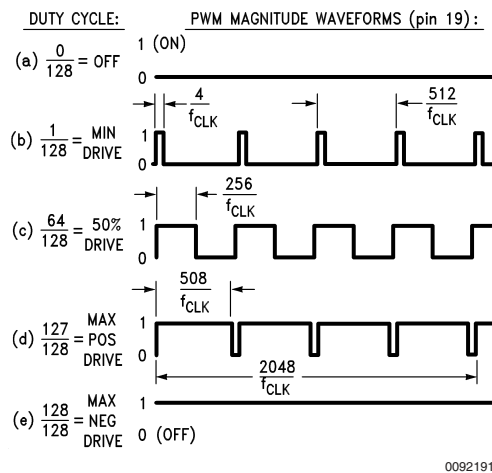

FIGURE 11. PWM Output Signal Format (Sign output (pin 18) not shown)
3. LM629 (sign/magnitude outputs): Outputs a PWM sign signal on Pin 18 (11 for surface mount), and a PWM magnitude signal on Pin 19 (13 for surface mount). Pins 20 to 25 are not used in the LM629. Figure 11 shows the PWM output signal format.
The LM629 provides 8-bit, sign and magnitude PWM output signals for directly driving switch-mode motor-drive amplifiers. Figure 11 shows the format of the PWM magnitude output signal.